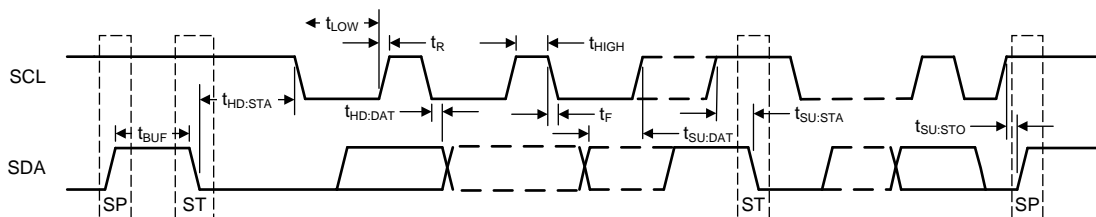

Figure 1. SMBus Timing Parameters
- (1) These parameters support SMBus 2.0 specifications.
- (2) These parameters are not production tested.
- (3) See Figure 1 for timing diagrams.